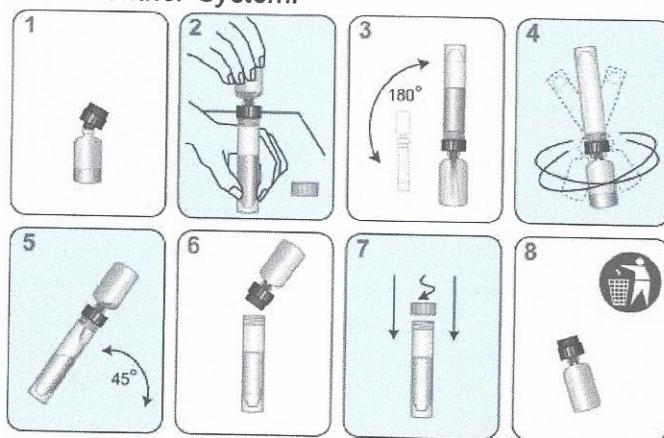

Figure 1. Panther System Reconstitution Process
- c. Open the lyophilized reagent vial and firmly insert the notched end of the reconstitution collar into the vial opening (Figure 1, Step 1).
- e. While holding the solution bottle on the bench, firmly insert the other end of the reconstitution collar into the bottle (Figure 1, Step 2).
- f. Slowly invert the assembled bottles. Allow the solution to drain from the bottle into the glass vial (Figure 1, Step 3).
- g. Gently swirl the solution in the bottle to mix thoroughly. Avoid creating foam while swirling the bottle (Figure 1, Step 4).
- h. Wait for the lyophilized reagent to go into solution, then invert the assembled bottles again, tilting at a 45° angle to minimize foaming (Figure 1, Step 5). Allow all of the liquid to drain back into the plastic bottle.
- i. Remove the reconstitution collar and glass vial (Figure 1, Step 6).
- j. Recap the plastic bottle. Record operator initials and the reconstitution date on all reconstituted reagent vials (Figure 1, Step 7).
- k. Discard the reconstitution collar and vial (Figure 1, Step 8).